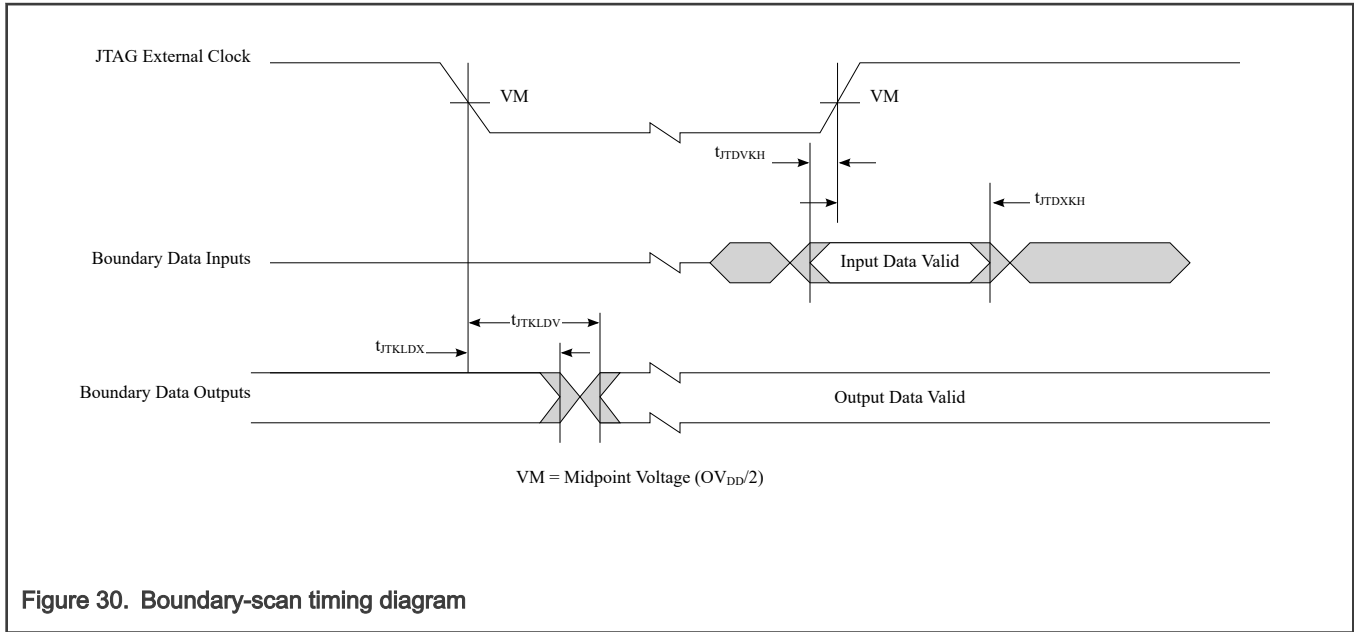

Figure 30. Boundary-scan timing diagram
This table provides the JTAG AC timing specifications as defined in Figure 27, Figure 28, Figure 29, and Figure 30.
7. See Figure 30.